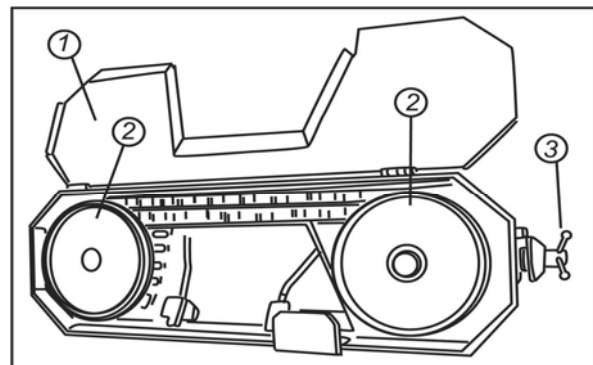

Fig.10
- Unhook and lift off the flywheel safety guard (1 Fig.10);
- Loosen the band by means of the handwheel (3 Fig.10);
- Remove the worn band from the flywheel (2 Fig.10) and extract it from the blade guides;
- Tighten the band by means of the special handwheel (3 Fig.10);